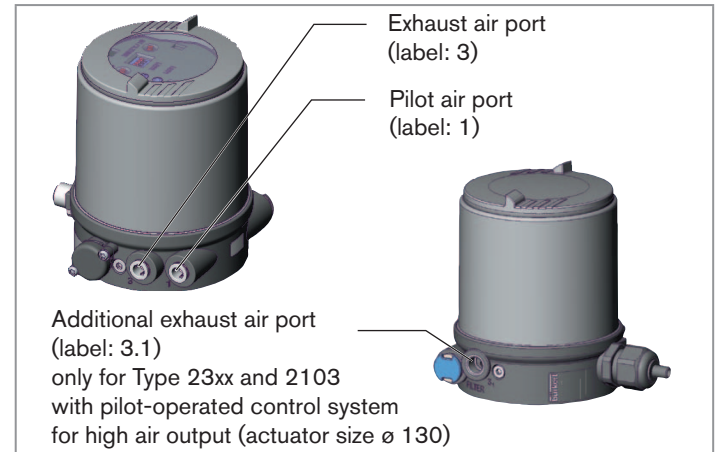

Fig. 8: Pneumatic Connection
- Connect the control medium to the pilot air port (1) (3 – 7 bar; instrument air, free of oil, water and dust).
- Attach the exhaust air line or a silencer to the exhaust air port (3) and, if available to the exhaust air port (3.1) (see “Fig. 8”).